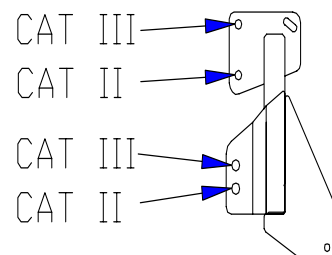

Figure 6
- Distance between center of lower pin at lowest operating position and ground must be 10". Adjust three-point hitch accordingly. Excessive operating height could result in PTO shaft failure or personal injury (Figure 6, shown below).